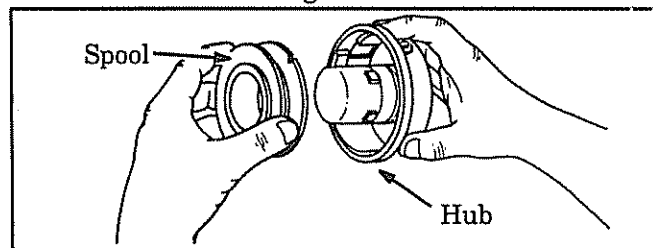

Figure 12
- b. Remove the spool. Figure 12 .